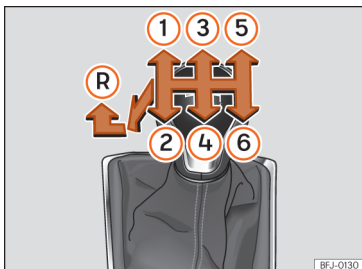

Fig. 53 Gear shift pattern of a 6-speed manual gearbox
The position of the gears is indicated on the gearbox lever » **Fig. 53**.
» **Fig. 53 (R)**.